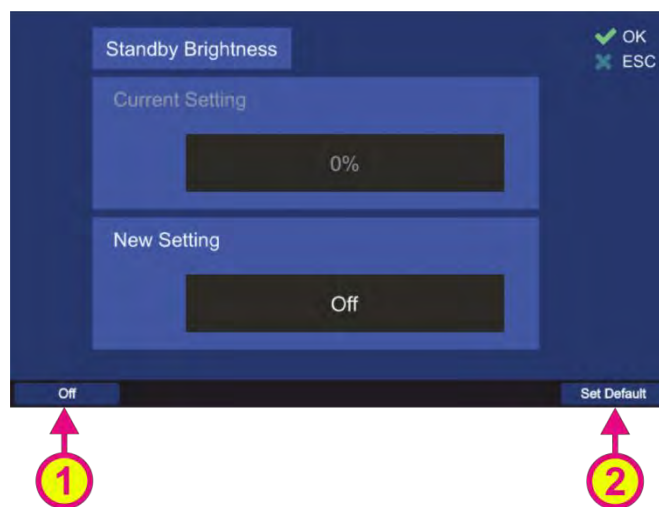

Figure 87. Adjusting the standby brightness
- o Type the new value for the standby brightness value in the “New Setting” input field, using the numeric buttons of the DCU keypad or use the hotkey “Off” (s. Figure 87, position 1) in order to set the standby brightness to a “black screen”-value.
- o Use the “Set Default” hotkey (s. Figure 87, position 2) to reset the value to the default setting (0%).